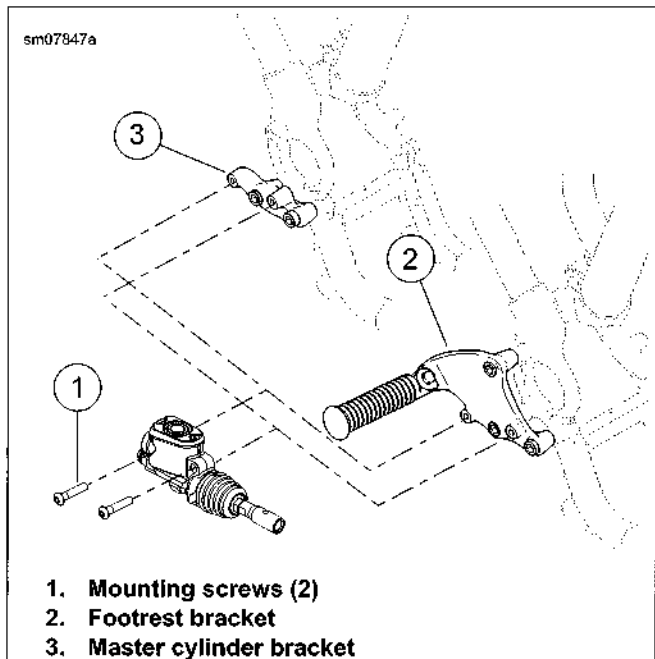

Figure 2-70. Master Cylinder/Reservoir Mounting
1. See Figure 2-70. Install rear master cylinder/reservoir and screws (1) on mounting bracket (3) or passenger footrest bracket (2).